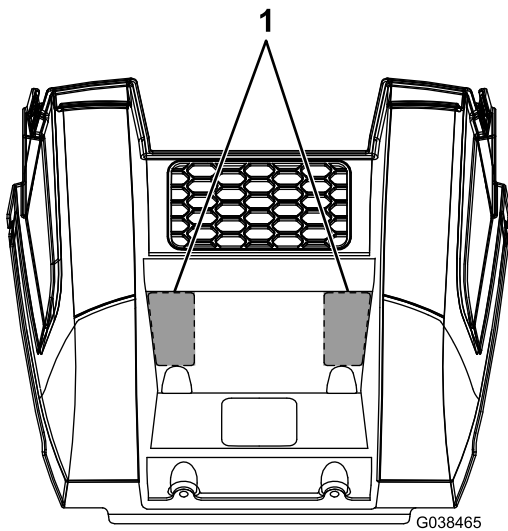

Figure 8
6. Using the long brackets as a guide, mark and cut out 2 squares on the lower bumper housing, as shown in Figure 8.